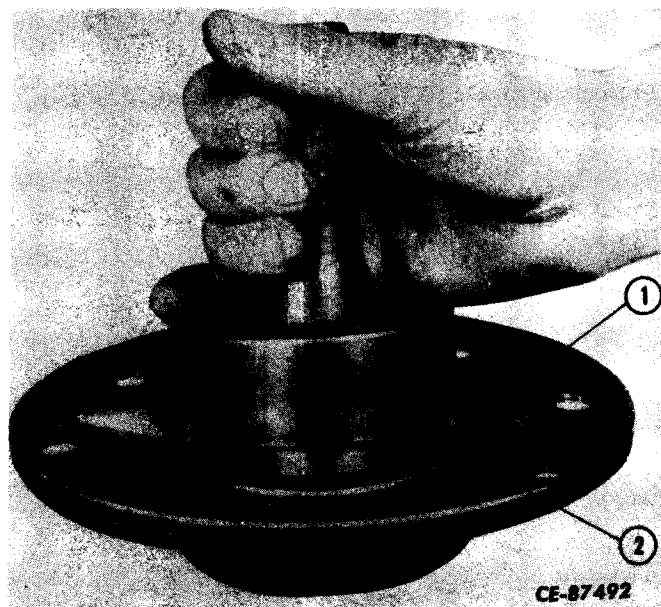

Figure 6-25
Lubricate pinion shaft oil seal (1, Fig. 6-25). Coat the outer edge of the seal body with a non-hardening sealing compound. Install the seal in the pinion bearing cover (2) using a suitable driver. Be sure lip of seal is toward the pinion cage. Seal body must bottom on shoulder of bearing cover.